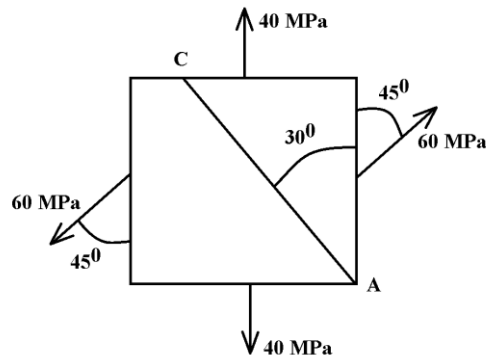

Figure 2b
- b) The stress system at a point in the strained material is shown in figure 2b. Find the normal and tangential stresses on the plane AC. Also find the principal stresses and maximum shear stress. Use Mohr's circle method. **10**